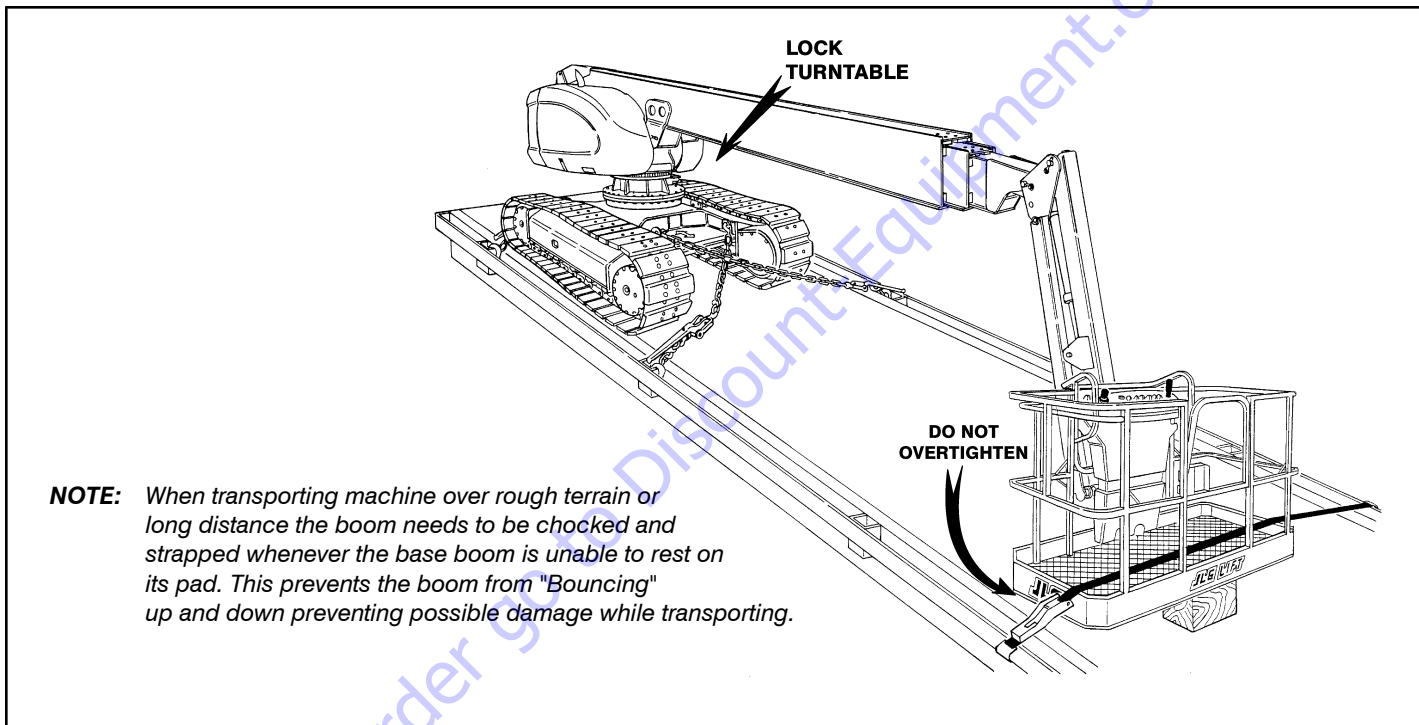

Figure 4-5. Machine Tie Down
3. Secure the chassis and the platform using straps or chains of adequate strength and attached to the designated tie down points. (See Figure 4-5., Machine Tie Down.)